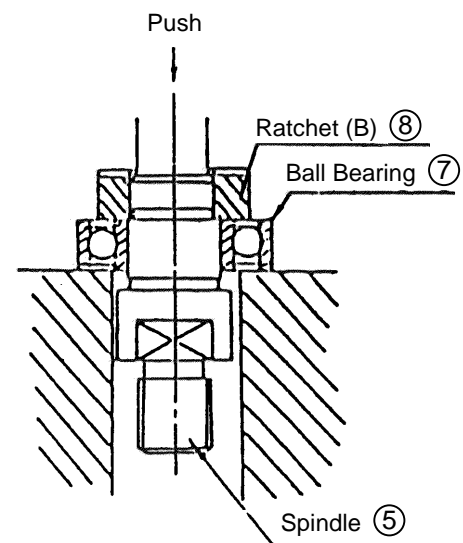

Fig. 4
(3) Removal of Ratchet (B) (See Fig. 4):
As illustrated in Fig. 4, support the 6002DDCM Ball Bearing ⑦ with a tubular jig, and press down on the tip of Spindle ⑤ with an arbor press to loosen and remove Ratchet (B) ⑧ and the 6002DDCM Ball Bearing ⑦ simultaneously.